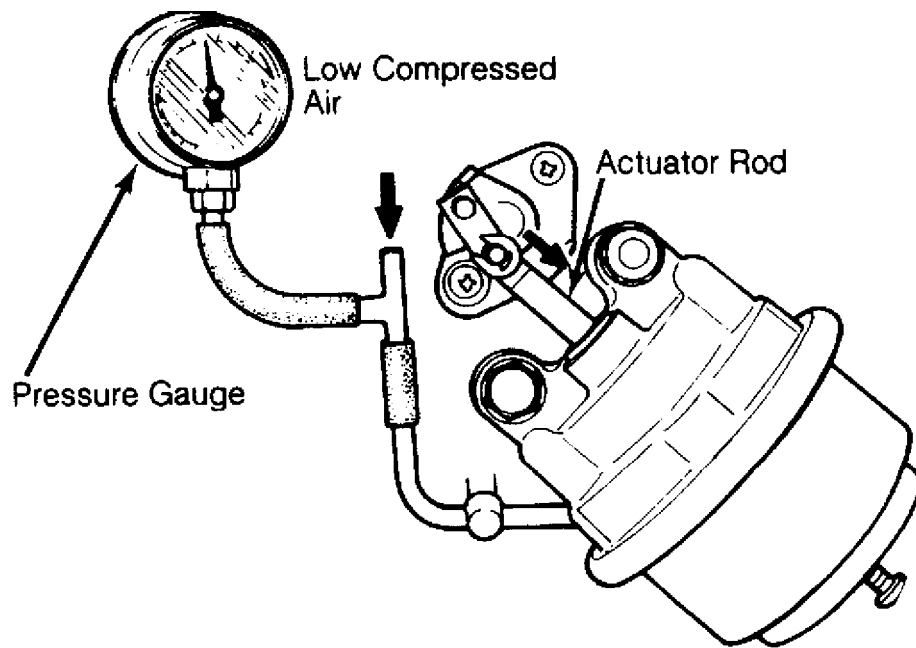

Fig. 14: Checking Double Throttle Diaphragm
2) Make sure that the No.2 secondary throttle valve is fully closed to its movable range. Check the calibration of the double throttle diaphragm. It should start to open 4.7 in Hg and be fully opened 0-1.8 in Hg. See Fig. 14.